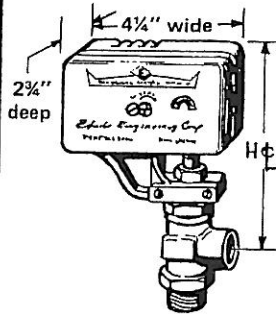

FIG. 3
- Consult Figure 3 for valve dimensions to ensure proper location of the valve. Remember that sufficient spacing must be provided to allow for installation, wiring, and servicing.